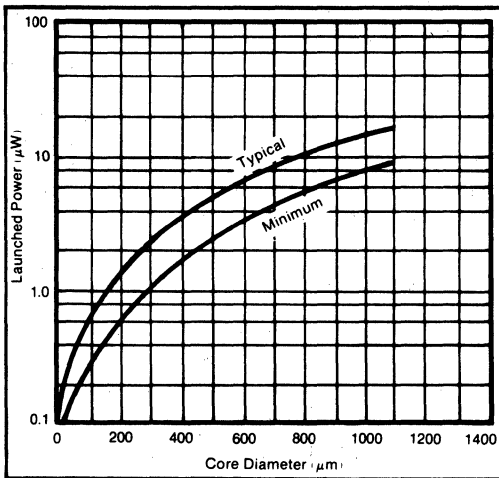

FIGURE 9. Launched Power vs Core Diameter.
An advantage of the 3714T over many other fiber optic transmitters is the way output power has been specified. The 3714T specifies the actual power launched into the cable. Thus, such complicated effects as LED output power and emission profile, cable numerical aperture (NA), and spacing between the LED transmitter and the cable have all been taken into consideration for the user. For cables other than those specified in the Electrical Specification Table, the power launched may be determined from the curve in Figure 9.
The minimum cable length may be determined for a specific cable by calculating the power launched into it as previously done using the typical curve from Figure 9. The typical value of launched power should be used since this will give the most power into the receiver, resulting in the desired minimum cable length.
As an example, consider a cable with a 368µm core diameter and a cable loss of 330dB/km. The typical power launched into the cable from Figure 9 is 3.5µW.